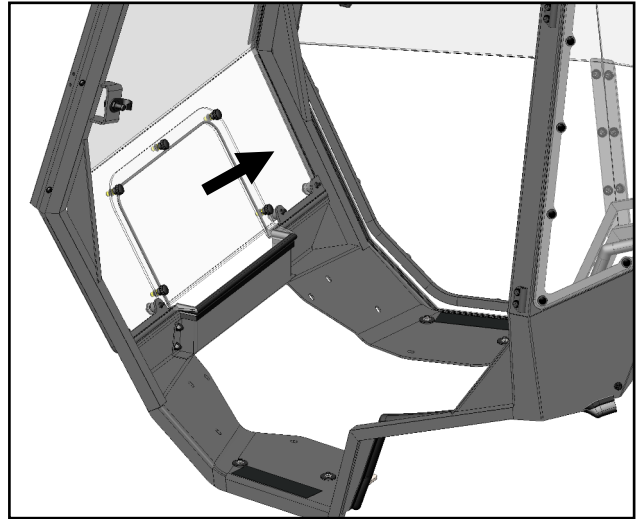

Fig. 11.1 (Attach Gas Shock)
11.1 See fig. 11.1. Re-install doors and install gas shocks. The end with the red tab should be